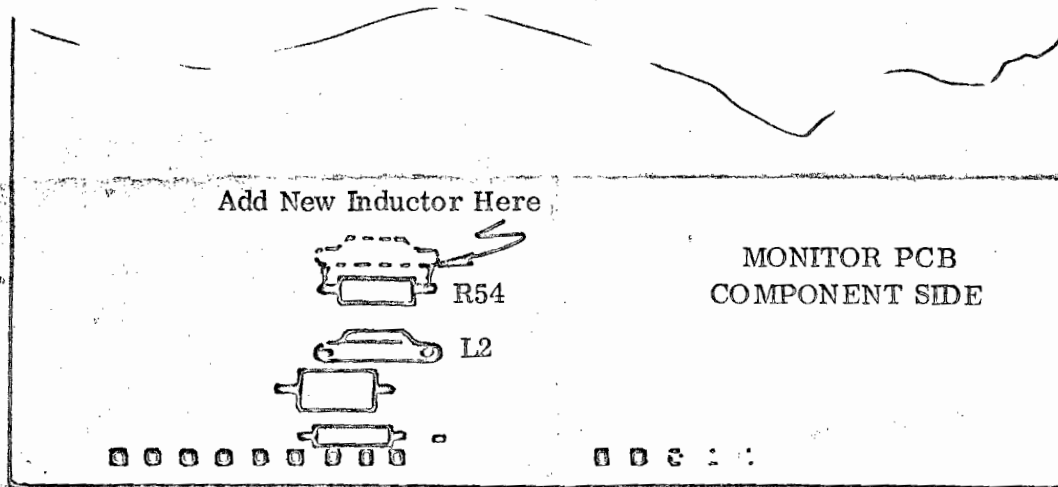

Figure 1
1. Looking at the top (component side) of the monitor printed circuit board, (see Figure 1), near the rear edge and left of center, locate the two components, inductor L2 and a 39 ohm resistor R54. These components are installed in parallel.